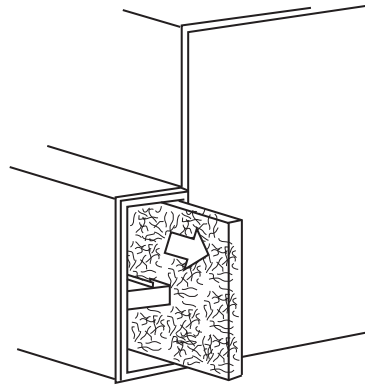

Fig. 22 – Removal of Filter from Side Blower Cabinet
- b. Slide air filter out of furnace. Keep dirty side up (if dirty) to avoid spilling dirt. See Fig. 22 and 23.